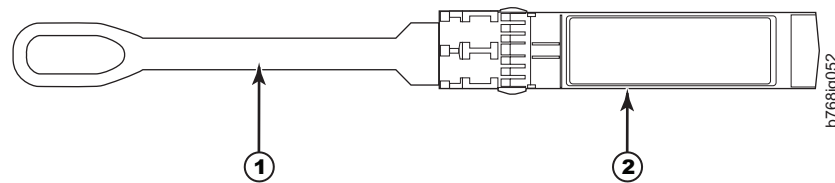

Figure 42. Optical mSFP transceiver
**Note:** The 16-Gbps SFP+ transceivers have an attached pull tab like the mSFPs. Instead of using the extraction tool, simply grasp the pull tab and pull it straight out to remove the 16-Gbps SFP+ and the connected cable from the port. See the mSFP transceiver in Figure 42 on page 111 for the basic appearance of the 16-Gbps transceiver. Detach the cable from the 16-Gbps SFP+ once you have disconnected the unit from the port.
**Note:** The 16-Gbps SFP+ transceivers have an attached pull tab like the mSFPs. See the mSFP transceiver in Figure 42 for the basic appearance of the 16-Gbps transceiver. Connect the cable to the 16-Gbps SFP+ first, and then insert the SFP+/cable unit into the port, using the pull tab to help push the transceiver and cable into the port.
**Attention:** The pull tabs (1 in Figure 42) are not designed to be bent. Doing so may result in damage to the pull tab.